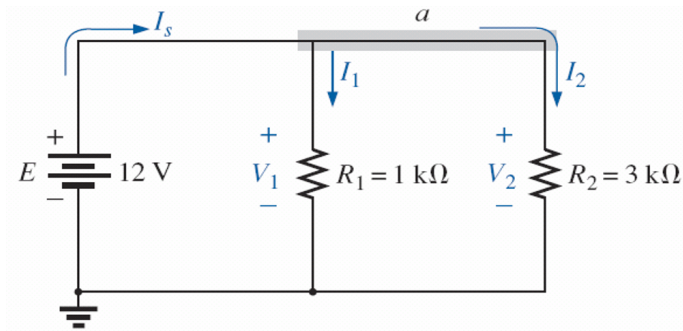

FIG. 6.18
- A parallel circuit can now be established by connecting a supply across a set of parallel resistors as shown in Fig. 6.18.
Mechanical analogy for Fig. 6.18.